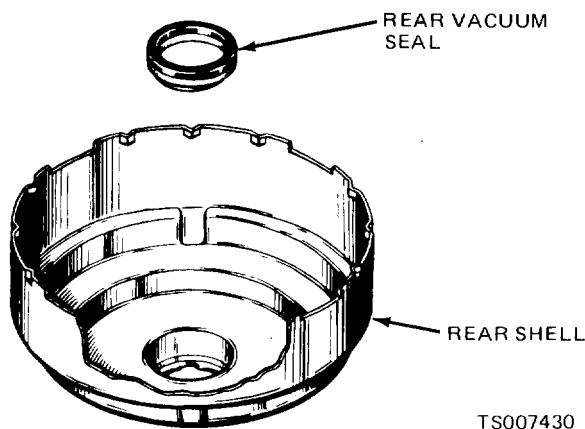

Figure 9-9. Installing Vacuum Seal.
(1) If vacuum seal and bearing was removed from rear shell, press new seal into shell cavity, plastic side first (fig. 9-9), until flat rubber surface is about 5/16" below flat inside shell surface (.305" minimum).